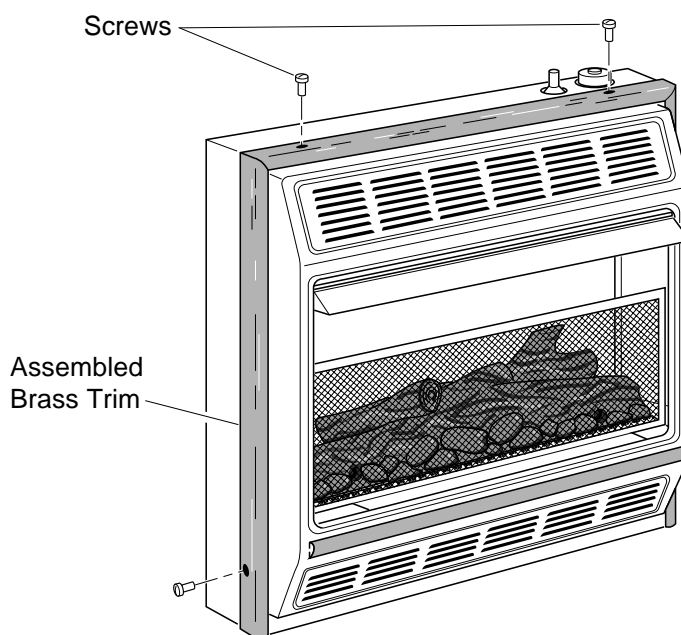

Figure 7 - Attaching Brass Trim to Heater
8. Place the assembled trim on front of heater cabinet. Attach on top and sides with four brass screws included in hardware package (see Figure 7).